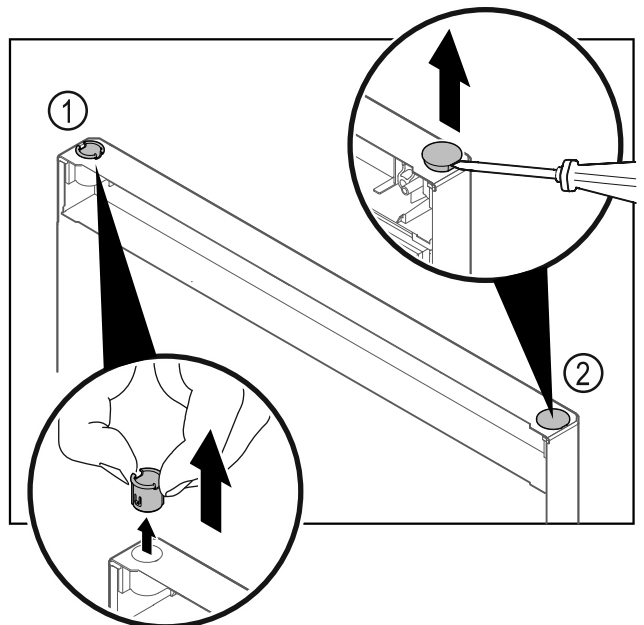

Fig. 26
- ▶ Pull out the hinge bushing Fig. 26 (1) with your fingers.
- ▶ Carefully lift the cover plug Fig. 26 (2) with a slotted screwdriver and pull it out.